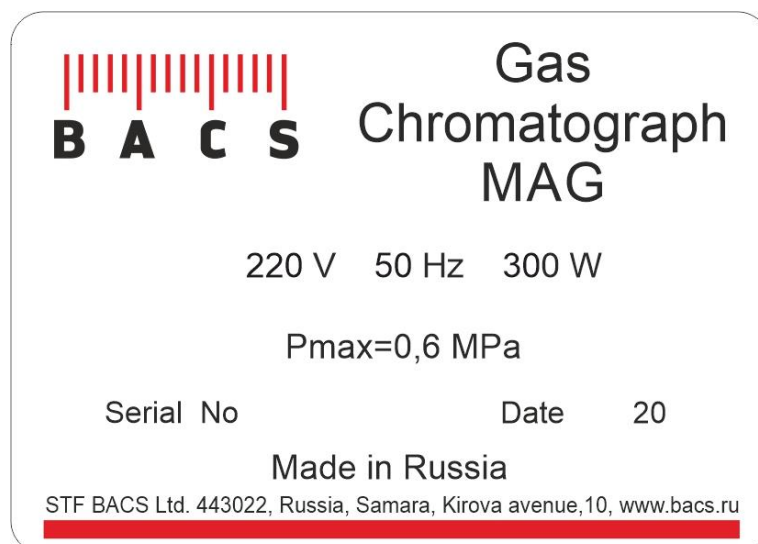

Fig. 5. Chromatograph MAG marking plate
1.7.1. On the plate installed at the chromatograph (Fig. 5), the following should be indicated: